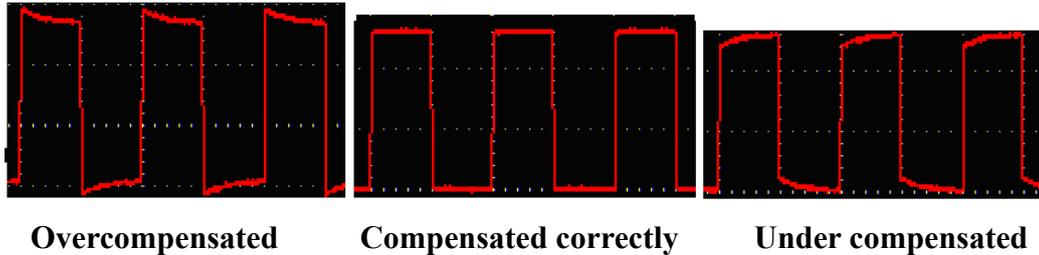
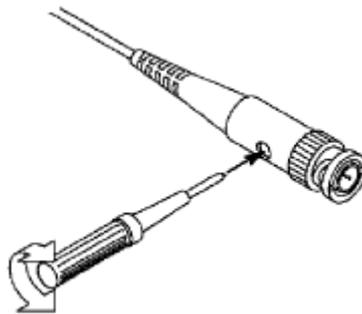

Fig. 4-8 Displayed Waveforms of the Probe Compensation
Fig. 4-9 Adjust Probe
2. Check the displayed waveforms and regulate the probe till a correct compensation is achieved (see Fig.4-8 and Fig.4-9).